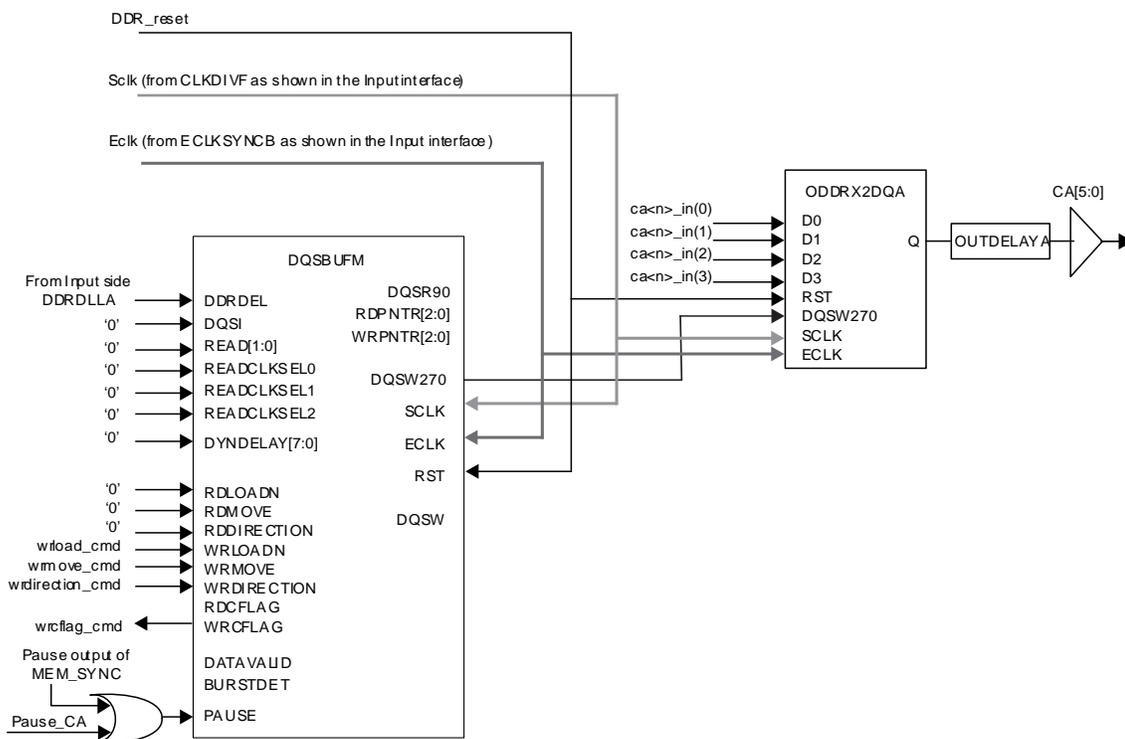

Figure 6.12. LPDDR4 Output for CA Generation
- ODDR2DQA module to generate the CA[5:0](LPDDR4) outputs (Figure 6.12).